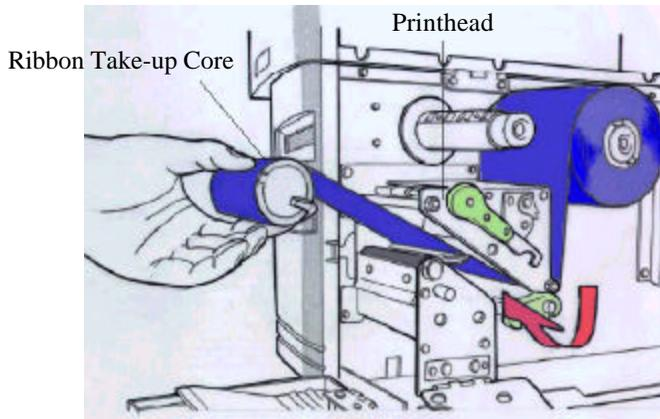

Figure 13 - Ribbon Installing
7. **Important:** Route ribbon as shown in the Ribbon Routing (Figure 13) before attaching it to the Ribbon Take-Up core using tape or adhesive leader.